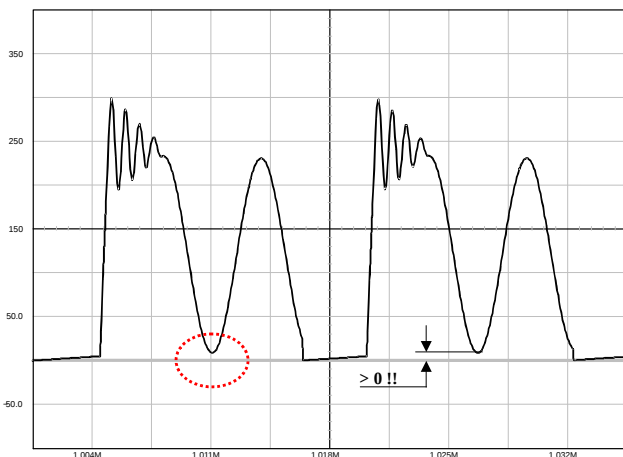

Figure 45. The Drain–Source Wave Shall Always be Positive
1. The lateral MOSFET body-diode shall never be forward biased, either during start-up (because of a large leakage inductance) or in normal operation as shown in Figure 45. This condition sets the maximum voltage that can be reflected during toff. As a result, the Flyback voltage which is reflected on the drain at the switch opening cannot be larger than the input voltage. When selecting components, you thus must adopt a turn ratio which adheres to the following equation:
Figure 47a: the simple capacitor limits the voltage according to the lateral MOSFET body–diode shall never be forward biased, either during start–up (because of a large leakage inductance) or in normal operation as shown by Figure 45. This condition sets the maximum voltage that can be reflected during t_{off} . As a result, the flyback voltage which is reflected on the drain at the switch opening cannot be larger than the input voltage. When selecting components, you must adopt a turn ratio which adheres to the following Equation 3. This option is only valid for low power applications, e.g. below 5 W, otherwise chances exist to destroy the MOSFET. After evaluating the leakage inductance, you can compute C with (Equation 4). Typical values are between 100 pF and up to 470 pF. Large capacitors increase capacitive losses...